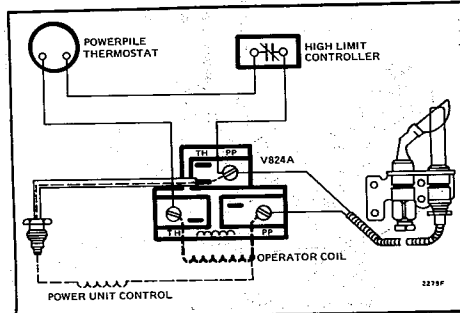

Fig. 8—Typical wiring for millivoltage system.
2. After Powerpile generator is installed, route generator lead to VS824 operator and connect to terminals labeled "PP." See Fig. 8. Make certain jumper lead from operator to safety shutoff power unit is connected and tightened 1/4 turn beyond finger tight.